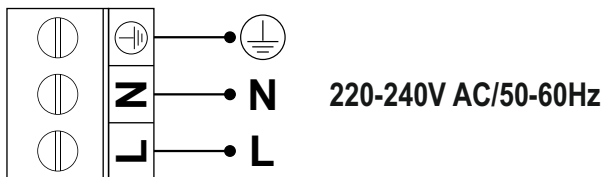

Figure 9. Connection to mains power supply
- The connection to the mains power supply must be made to the terminal blocks located in the upper right area of the panel, as shown in Figure 9.